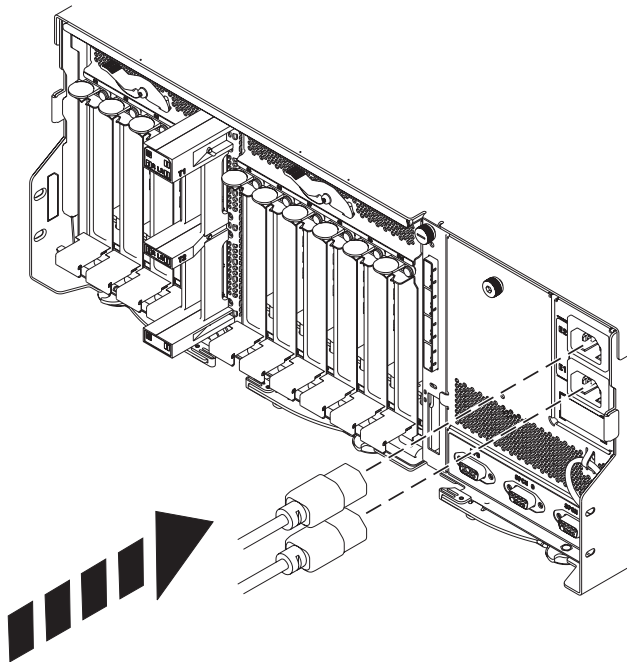

Figure 7. Connecting the power cords
- c. Move the handle (A) toward the disk drive unit to lock it into place.
- c. Move the handle (A) toward the card to lock it into place.
7. Connect the power cords to the back of the enclosure as shown in Figure 7.